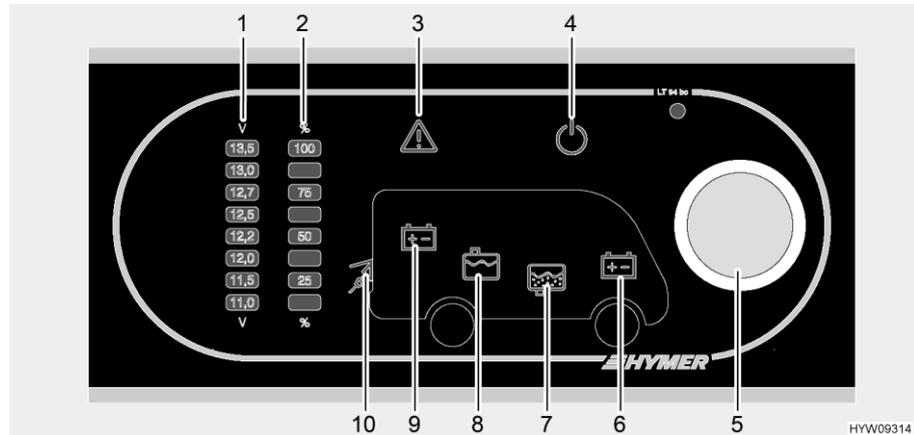

Fig. 105 Panel (LT 94)
The rotary knob (Fig. 105,5) switches the panel and the 12 V power supply to the living area on and off.
Switching on: ■ Press the rotary knob (Fig. 105,5): The 12 V living area power supply is switched on. The 12 V indicator lamp (Fig. 105,4) lights up.
Switching off: ■ Press the rotary knob (Fig. 105,5): The 12 V living area power supply is switched off. The 12 V indicator lamp (Fig. 105,4) goes off.
Use the rotary knob (Fig. 105,5) for reading the voltage of the living area battery as well as that of the starter battery. The voltage is displayed on the indicator scale for battery voltage (Fig. 105,1).
- Turn the rotary knob (Fig. 105,5) until the symbol for the desired battery lights up.
Living area battery voltage is displayed (Fig. 105,9)
Starter battery voltage is displayed (Fig. 105,6)
- Read the voltage from the indicator scale for battery voltage (Fig. 105,1).
Use the rotary knob (Fig. 105,5) for checking the fill level of the water tank or the waste water tank. The fill level is displayed on the indicator scale for the tank fill level (Fig. 105,2).
- Turn the rotary knob (Fig. 105,5) until the symbol for the desired tank lights up.
The level of the water tank is displayed (Fig. 105,8)
The level of the waste water tank is displayed (Fig. 105,7)
- Read the level from the indicator scale for the tank fill level (Fig. 105,2).
The Alarm warning light (Fig. 105,3) flashes if set limit values are exceeded or fallen below.
The Alarm warning light (Fig. 105,3) flashes if the battery voltage falls below 11 V. If the 12 V power supply is switched on, the relevant battery symbol (Fig. 105,6 or 9) also lights up and "11.0" starts flashing on the indicator scale for battery voltage (Fig. 105,1). Danger of total discharge.
Tank alarm The Alarm warning light (Fig. 105,3) starts to flash and the corresponding tank symbol (Fig. 105,7 or 8) lights up as soon as the water tank is empty or the waste water tank is full.
The 230 V indicator lamp (Fig. 105,10) illuminates whenever line voltage is available at the transformer/rectifier input.